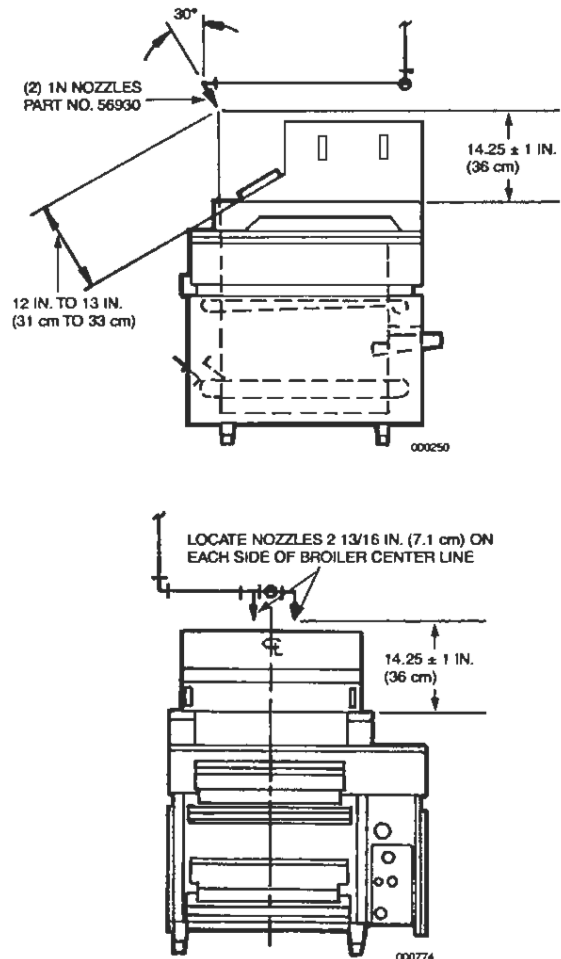

FIGURE 80
- Each individual broiler must be protected with a minimum of (2) two, 1N nozzles, Part No. 419335. The nozzles must be located as shown in Figure 80.